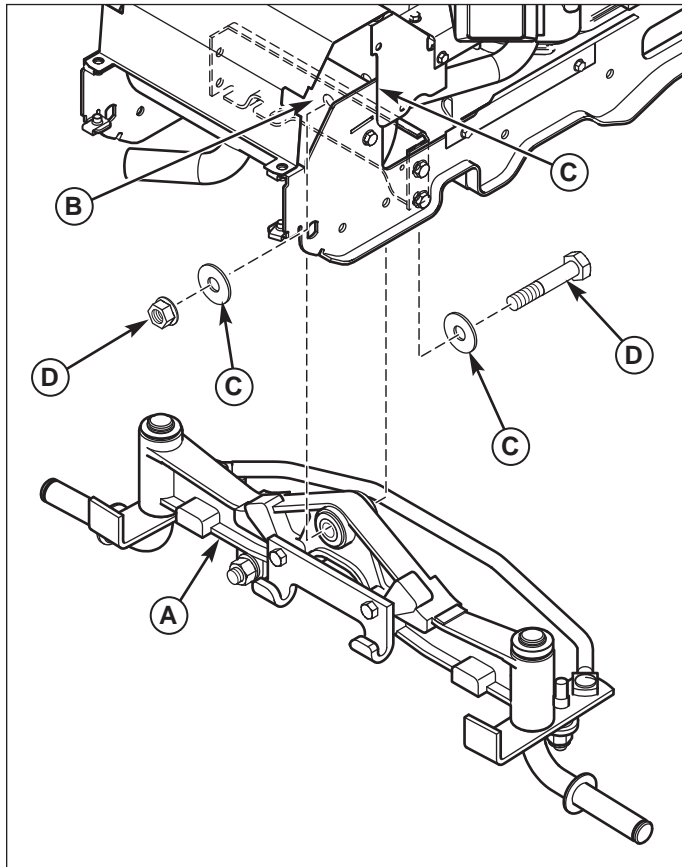

Figure 11 New Axle Installation
19. Install new axle (A, Figure 11) between axle support plate (B) and frame (C) using a 5/8-11 x 3-1/2 cap-screw (D), two 5/8 flat washers (E), and a 5/8-11 flange nut (F) as shown. Tighten flange nut to 150 ft. lbs (204 Nm).